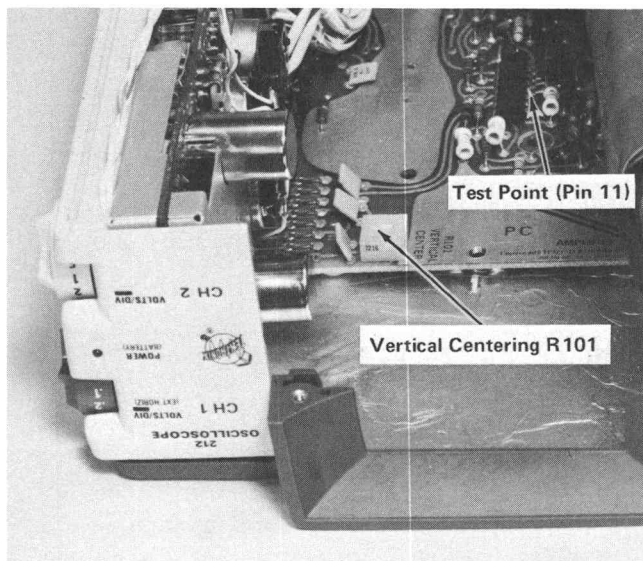

Fig. 4-3. Location of Vertical Centering adjustment and test point.
- a. Connect the DC voltmeter between pin 11 of U105 (positive meter lead to pin 11) and ground (see Fig. 4-3).
- d. ADJUST—Vertical Centering, R101 (see Fig. 4-3) to position the trace to the center horizontal graticule line.